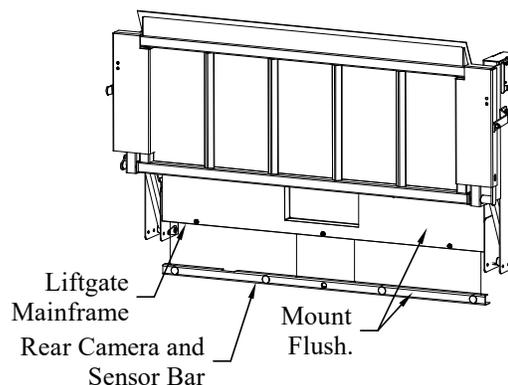

Figure 5: Rear camera and sensor bar position.
Align the bar so its vertical face is flush with the mainframe box cover (Figure 5).
- 5. Install** the rear camera and sensor bar underneath the liftgate using the supplied 1/4-20 hex bolts and nuts (Figure 5).